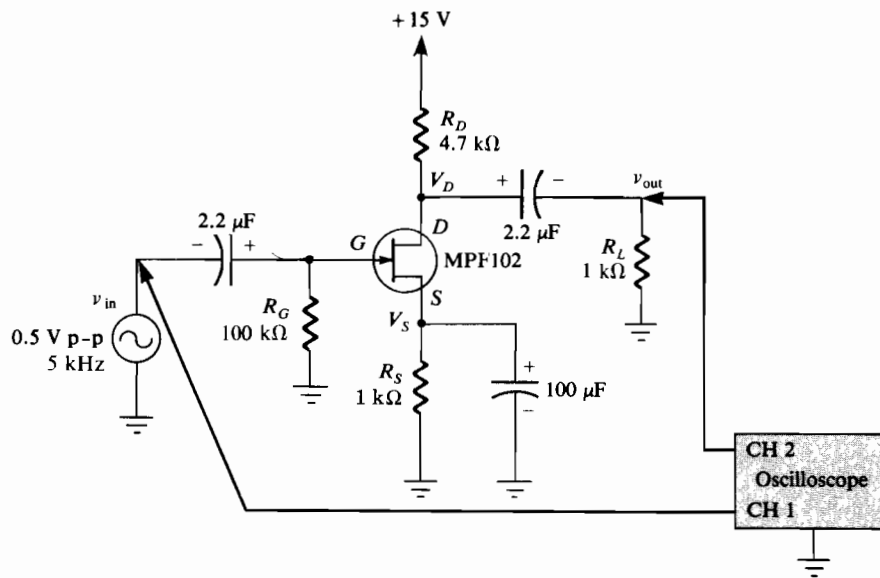

FIGURE 23-1 Schematic diagram of circuit.
1. Wire the circuit shown in Figure 23-1, omitting the signal generator and the power supply. Enter the values for I_{DSS} , $V_{GS(\text{off})}$, and g_{m0} obtained in Experiment 14 in Table 23-1.
3. Connect Channel 1 of your oscilloscope at the input to the amplifier (v_{in}) and Channel 2 to the 1-k Ω load resistor (v_{out}). Then connect the signal generator to the circuit as shown in Figure 23-1, and adjust the sine wave output level of the generator at 0.5 V *peak-to-peak* at a frequency of 5 kHz.
1. For the circuit of Figure 23-1 with $I_{DSS} = 10 \text{ mA}$ and $g_{m0} = 5000 \mu\text{S}$, the voltage gain from gate to drain is approximately
3. If the source bypass capacitor in Figure 23-1 is removed, the voltage gain will
4. If the load resistor R_L in the circuit of Figure 23-1 is increased, the voltage gain will
5. The common-source amplifier of Figure 23-1 is similar in operation to a bipolar transistor